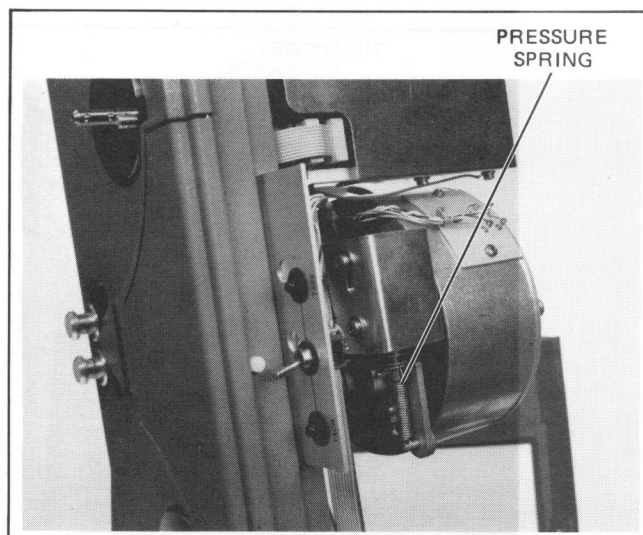

Figure 5-39. Pinchroller Solenoid Removal
- e. Using long-nosed pliers, unhook the pinchroller pressure spring from the groove pin on the solenoid actuator arm (see Figure 5-39).